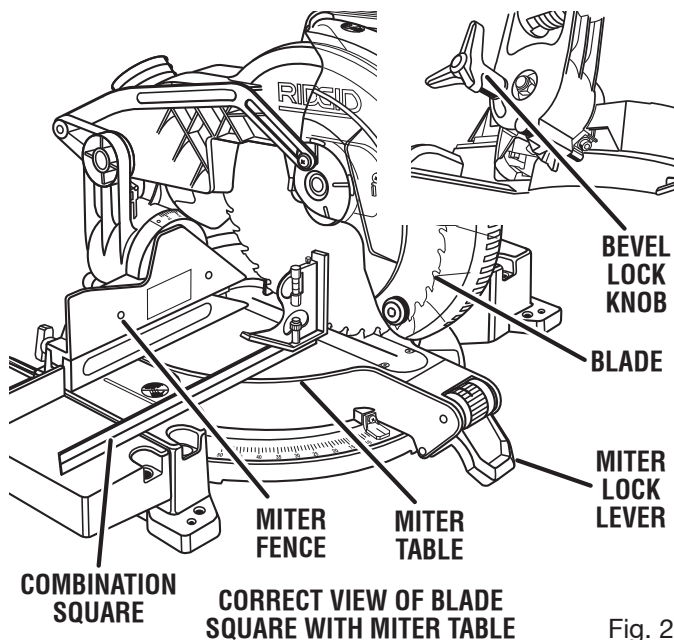

Fig. 22
- The edge of the square and the saw blade should be parallel as shown in *figure 22*.